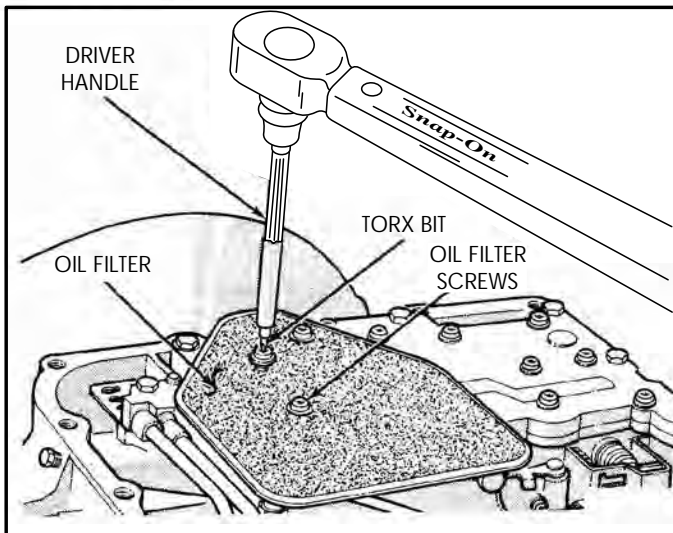

Figure 242
8. Torque the oil filter screws to 5 N·m (40 in.lb.), as shown in Figure 242.